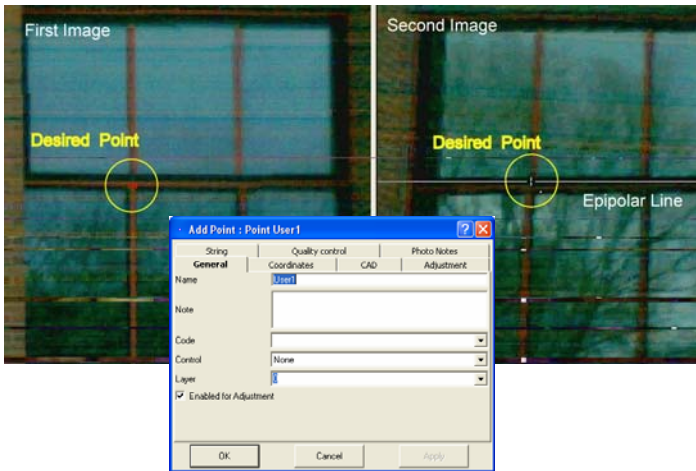

Figure 10-5. Measuring Coordinates of Point Using Stereopairs
2. With the ‘add point’ cursor, click the desired point on the first (left or right) image (Figure 10-5 on page 10-4). The cursor automatically moves to the second image.